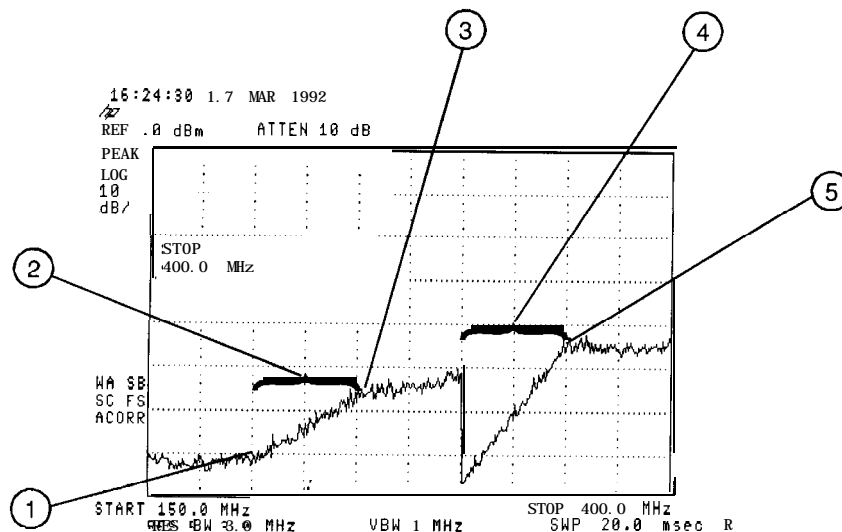

Figure 5-13. Amplitude-Correction Points
Pressing **SELECT POINT** specifies the amplitude-correction point to be entered or edited. Amplitude-correction data is constructed from left to right and is created by entering frequency and amplitude values into an amplitude-correction table. The frequency and amplitude values specify a coordinate point from which amplitude-corrections are interpolated (see Figure 5-13). Up to 79 points can be specified for the amplitude-corrections table.
Item	Description of Items in Figure 5-13
**Note** Only two entries per frequency are used. If more points with the same frequency are entered, only the first and last entries are used. All other amplitude values are ignored. See Figure 5-13 for an example of two entries at the same frequency.